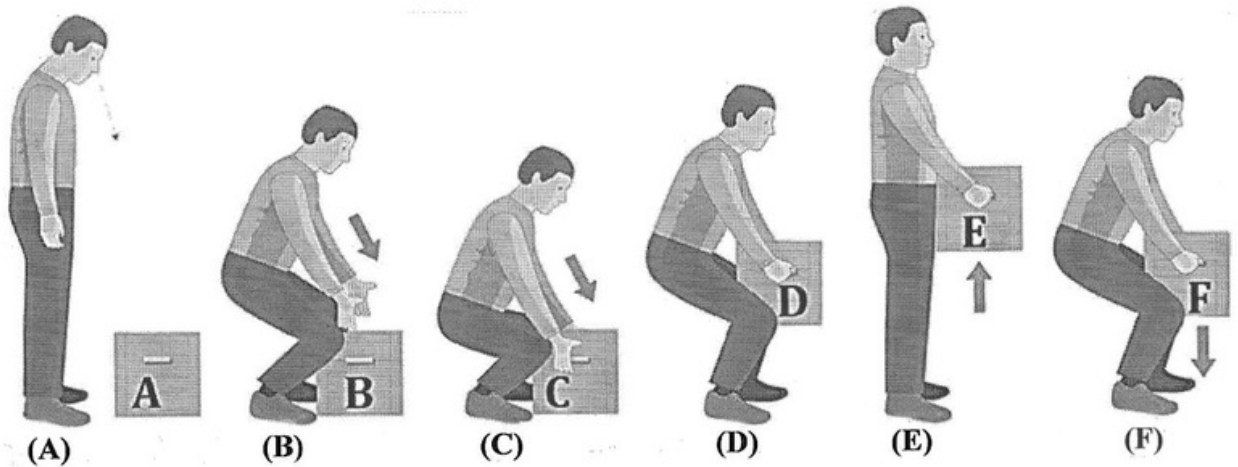

Figure 3
3. **Figure 3** shows diagrams **A** through **F** that illustrates the proper way to lift heavy objects, which involves several steps.